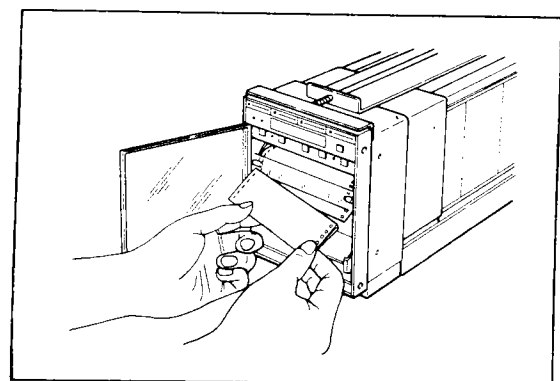

Figure 5-11. Chart Cutting.
- (1) Tear off the recorded chart at perforation (see Figure 5-11).